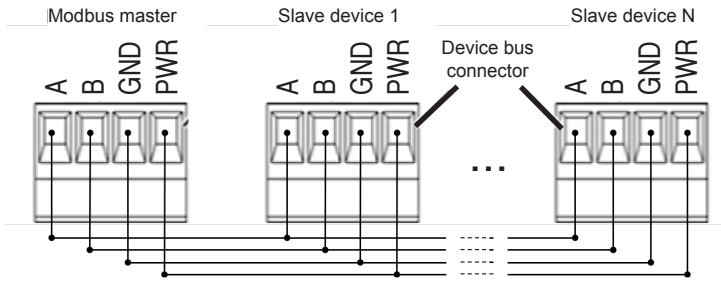

Fig. 4: Wiring the Power Meter to the Modbus Master
- ▶ Alternatively, refer to figure 4 for terminal assignments.